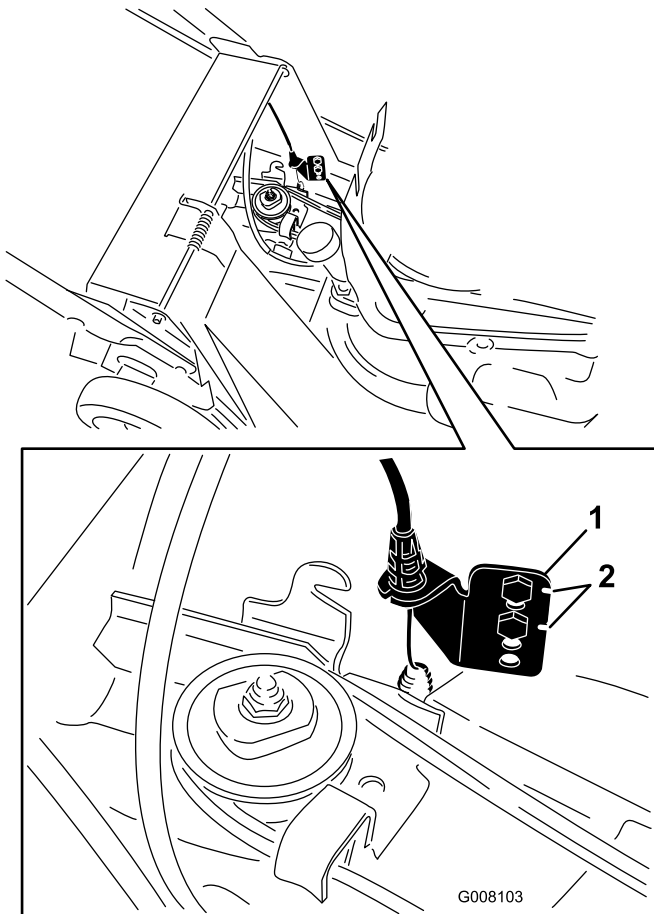

Figure 30
7. Remove the screws from the lower anchor bracket (Figure 30).
Note: The lower belt cover has been removed in Figure 30 for the purpose for clarity. It is not necessary to remove the lower belt cover to perform this procedure.
8. Move the lower anchor bracket up one hole (Figure 30).
Note: When you install a new belt, move the lower anchor bracket to its original factory position, which is indicated by the notches next to the holes in the bracket (Figure 30).